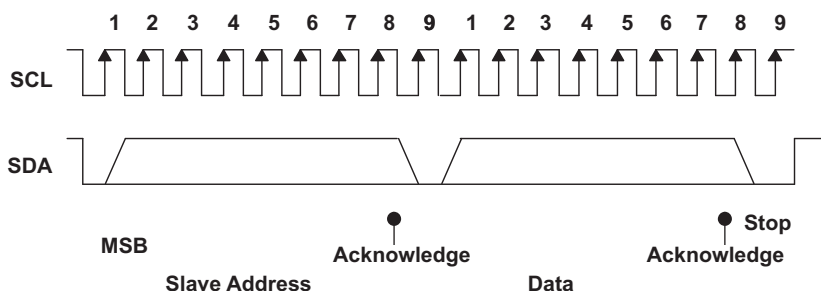

Figure 26. I²C Address and Data Cycles
- The master generates further SCL cycles to either transmit data to the slave (R/W bit 1) or receive data from the slave (R/W bit 0). In either case, the receiver needs to acknowledge the data sent by the transmitter. So an acknowledge signal can either be generated by the master or by the slave, depending on which one is the receiver. The 9-bit valid data sequences consisting of 8-bit data and 1-bit acknowledge can continue as long as necessary (see Figure 26).